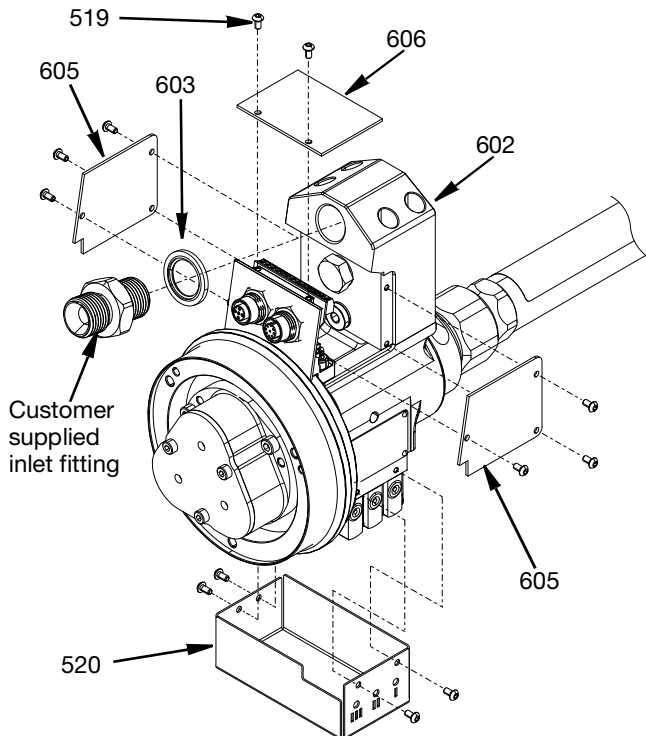

FIG. 39
9. Install cover plates including the outer blue cover (520), two side blue covers (605) and top blue cover (606) with twelve M3 BHCS screws (514) torqued to 12 in-lb (1.35 N•m).
10. Apply a thin coat of lithium grease to the 1/2 in. BSPP washer seal (603) and threads of the customer supplied inlet fitting. Thread into the SST single inlet adapter (602) and torque to Torque to 15 ft-lb (20.34 N•m). See FIG. 39 page 26.